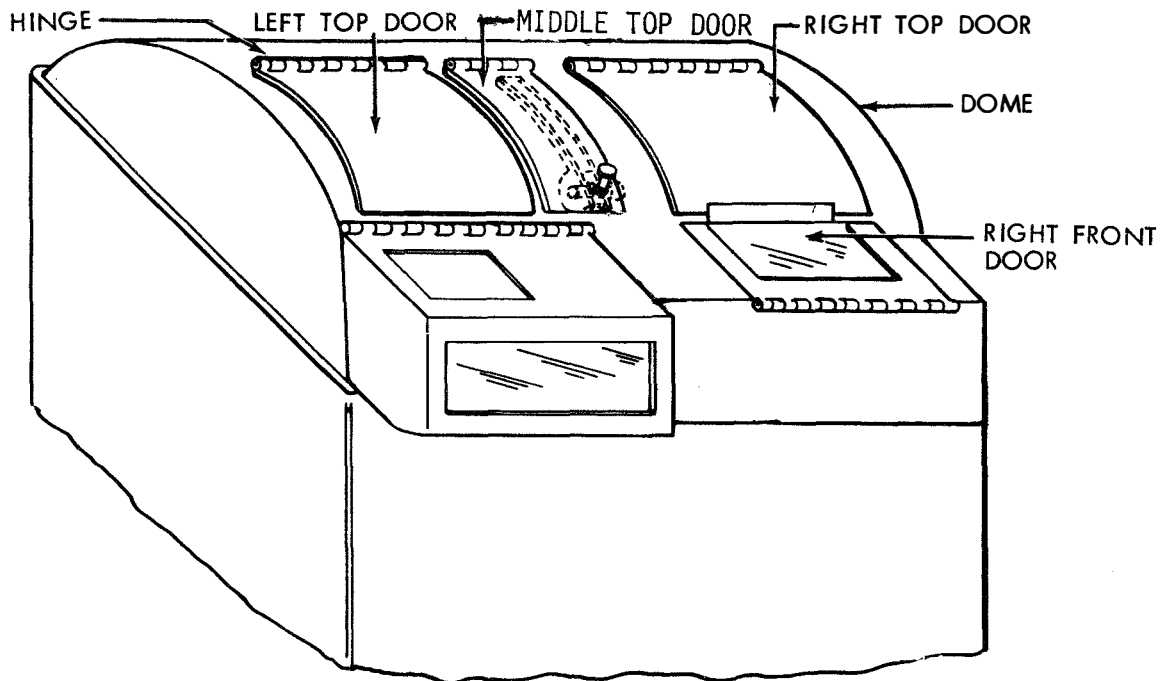

Figure 6-349. Left, Right, and Middle Top Doors and Right Front Door
(1) Refer to Figure 6-349.
(2) Each door should set squarely and uniformly on contour of dome.
(3) To adjust, loosen hinge mounting screws and position door. Tighten screws.
(2) Door should rest flat and squarely on dome and reinforcement channel fits over its guide bracket in dome.
(3) To adjust, remove spring detent from center of dome. Loosen hinge and bracket mounting screws and position door. Tighten screws.
(2) Both left and right edges of right front door should be even with right top door and rest flat on horizontal surface of dome when closed.
(3) To adjust, remove thumbscrews, latches, and springs from door. Loosen mounting screws and position door. Tighten screws and replace thumbscrews, latches, and springs.